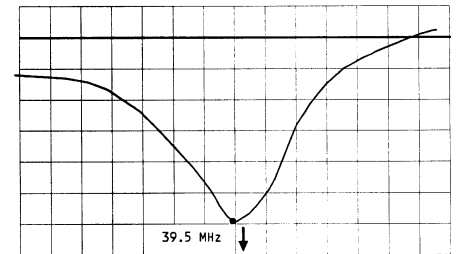

Fig.3
B. ALIGNMENT STEP (SEE FIG.3)
- 1. Adjust T105 (TANK COIL) to obtain maximum amplitude of response at 39.5MHz as in Fig.3.